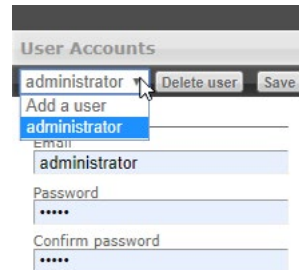

Figure 04: Add a User
1. Click on the drop-down that says **administrator** and choose the **Add a user** option (Figure 04).